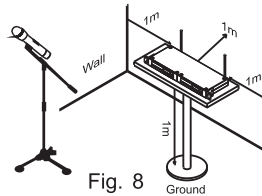

Fig. 8
- For ideal reception range, install the receiver at least 1 meter above the ground and away from EMI / RFI “noise” sources. Besides, place the transmitter at least 1 meter away from the receiving antenna, as shown in Fig. 8.